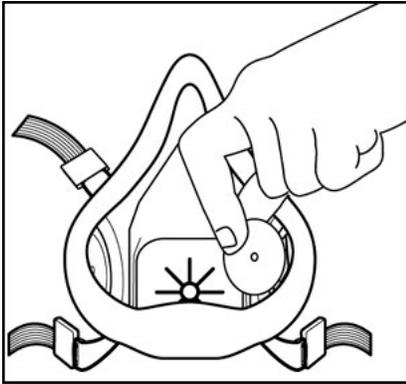

Fig. 16
1. Remove the inhalation valves from the half or full facepiece and store them so they remain flat. (Fig. 16 and 17)